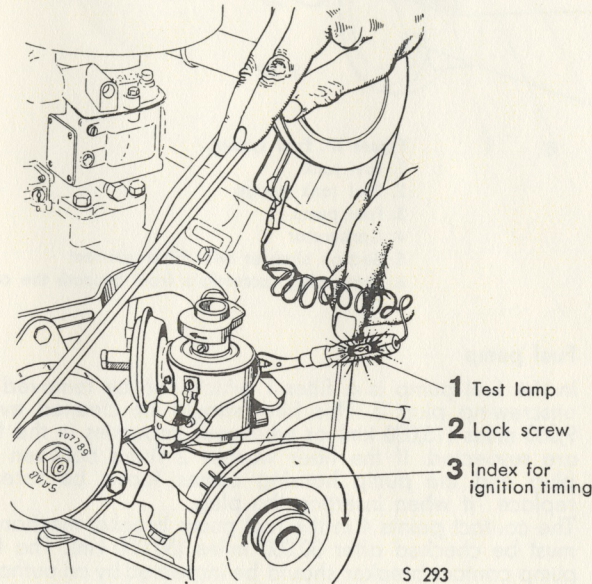

Figure 16. Adjustment of the basic timing
5. Slacken screw, 2 in Figure 16, and rotate the distributor until the test lamp lights, i.e. until the breaker points open. Be sure that the advance regulator weights are constantly retracted, by keeping the rotor in a counter-clockwise position.